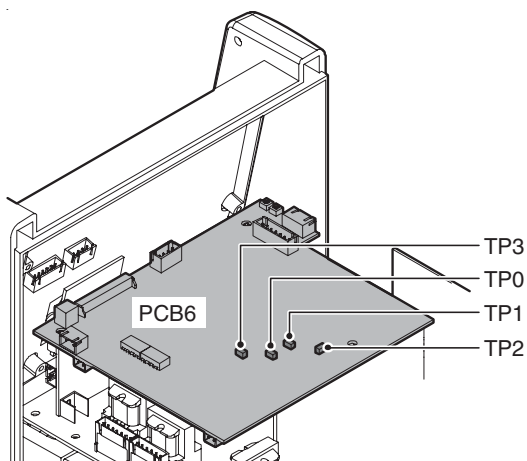

Figure 6-10: Checkpoints TP0-TP3 on PCB6
2. On the PCB3 (WK-5548) and PCB6 (WK- 5549), measure the voltages according to the following table. The check points and the reference are obtainable on the top side of PCB6 (WK-5549). The locations of points are indicated in Figure 6-10, 6-11.